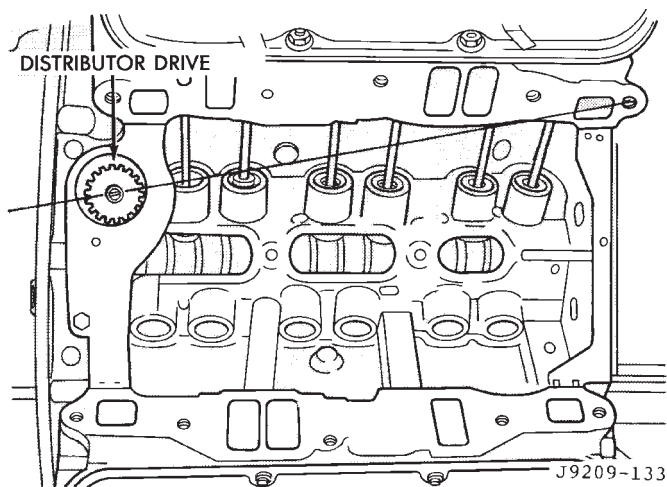

Fig. 24 Position of Oil Pump Shaft Slot
- (1) Rotate crankshaft until No. 1 cylinder is at top dead center on the firing stroke.
- (2) When in this position, the timing mark of vibration damper should be under "0" on the timing indicator.
- (3) Install the shaft so that after the gear spirals into place, it will index with the oil pump shaft. The slot on top of oil pump shaft should be aligned toward the left front intake manifold attaching bolt hole (Fig. 24).